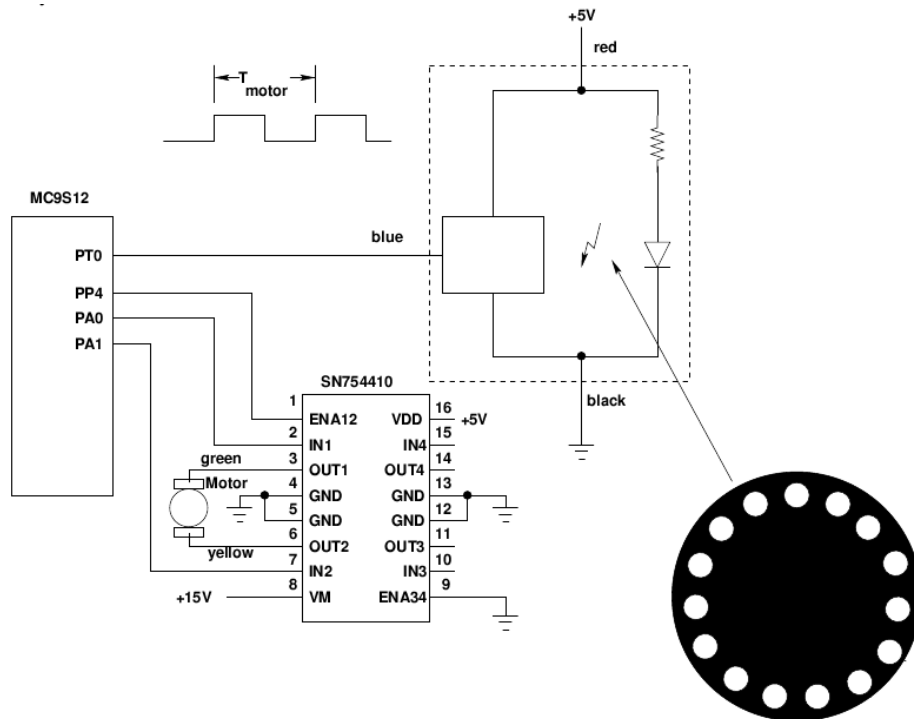

Figure 1: Using a pulse width modulated (PWM) signal to adjust the speed of a motor.
In this lab you will control the speed of a motor. Figure 1 shows the hardware setup, which is the same as for Week 1 of Lab 4. You will use the potentiometer on your evaluation board to set the desired speed of the motor, and you will control the speed through the PWM output of the HCS12. You will measure the speed of the motor using an input capture pin, and display the desired and actual speeds on the terminal.
1. Build the circuit shown in Figure 1.